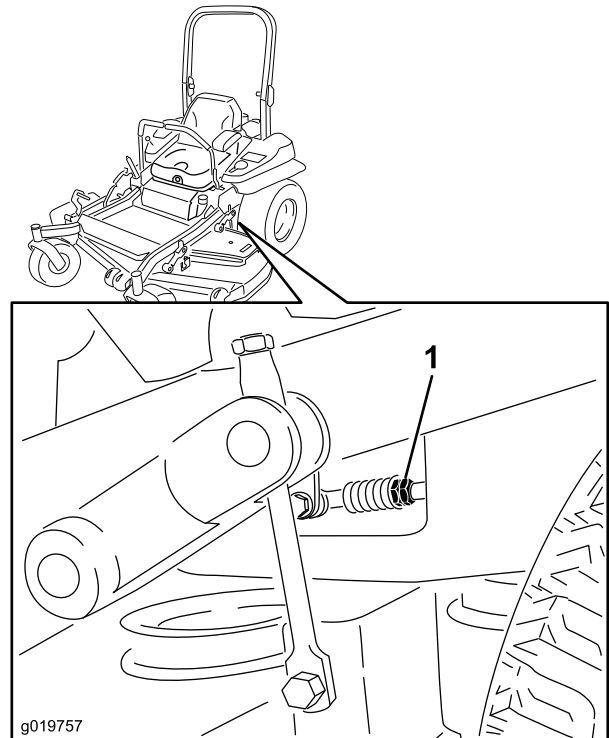

Figure 86
7. Bring the motion-control levers into the neutral position. Adjust pump control rod lengths by rotating the double nuts on the rod in the appropriate direction until the wheels slightly creep in reverse (Figure 86). Move the motion-control levers to the reverse position and while applying slight pressure to the lever allow the reverse indicator springs to bring the levers back to neutral. The wheels must stop turning or slightly creep in reverse.